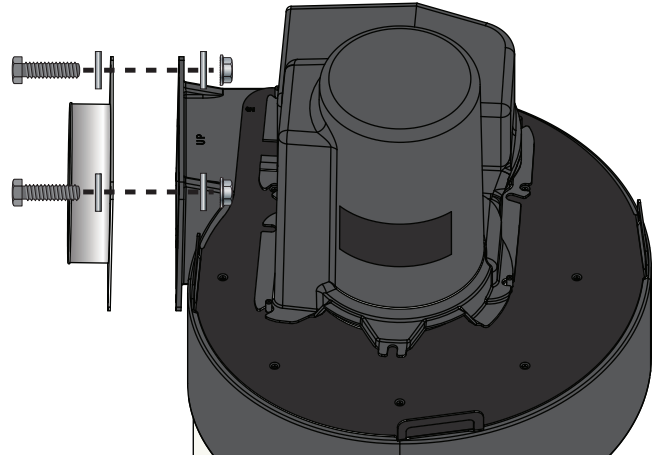

FIG. 7
Attach the 8" Outlet Adapter (I) onto the outlet of the Fan Housing (B) with four Hex Head Bolts (Q10), eight Flat Washers (Q6), and four Whiz-Lock Nuts (Q7) as shown in [FIG. 7].